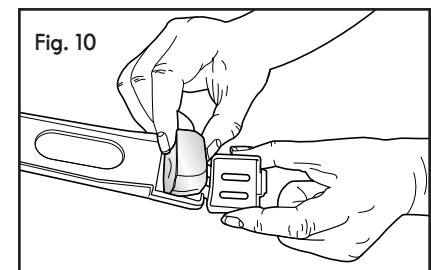

Fig. 10
11. Open the water filter carriage, pull out the used charcoal filter, and replace with a new one of the same size and shape as shown in Fig 10.